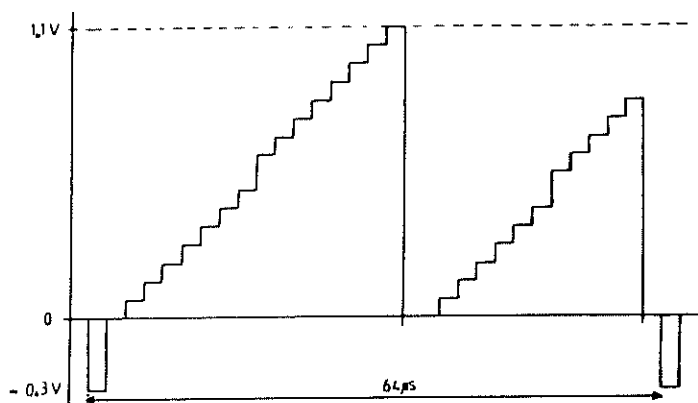

Figure 1 : The generated test-pattern.
(1) Output gain
- Measure a staircase pattern like the one in fig. 1.